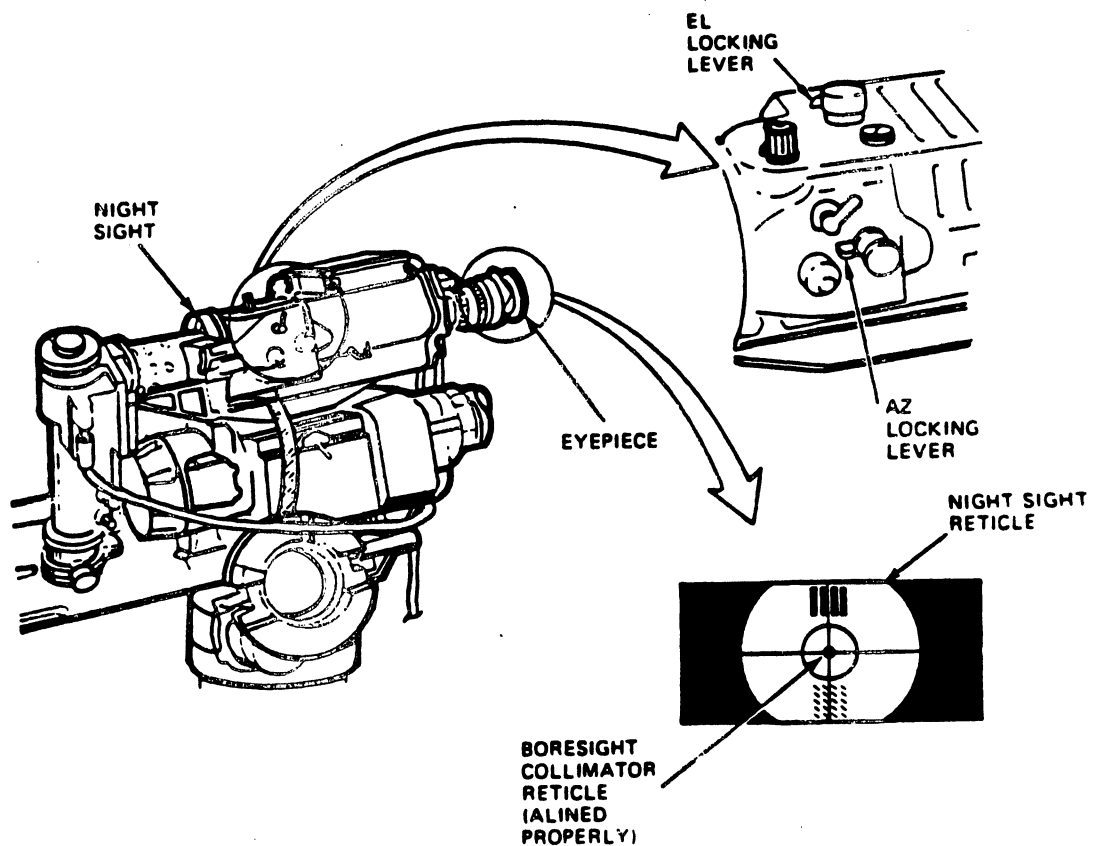

Fig 3-29. Night sight, locking levers and collimator reticle.
Step 1. Move the AZ and EL locking levers fully clockwise on the night sight, look into the eyepiece and check the alinement of the boresight collimator reticle (fig 3-29).